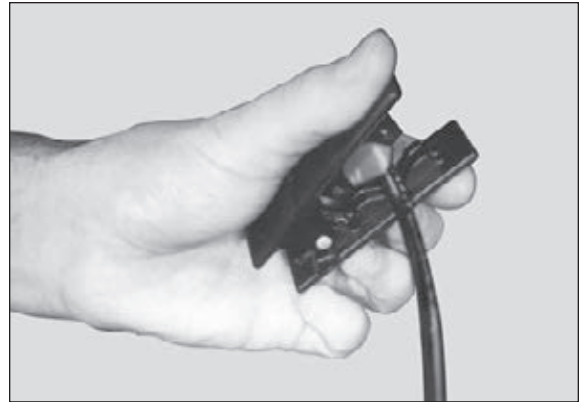

Figure 19
3. Cut the air line assembly (AA) in two equal lengths (Figure 19).